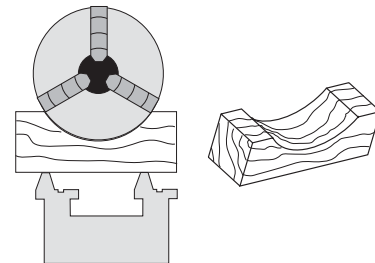

Figure 21. Simple chuck cradle made of scrap lumber.
2. Lay a chuck cradle or protective layer of plywood over the bedways to protect the ways and your fingers from damage (see Figure 21).